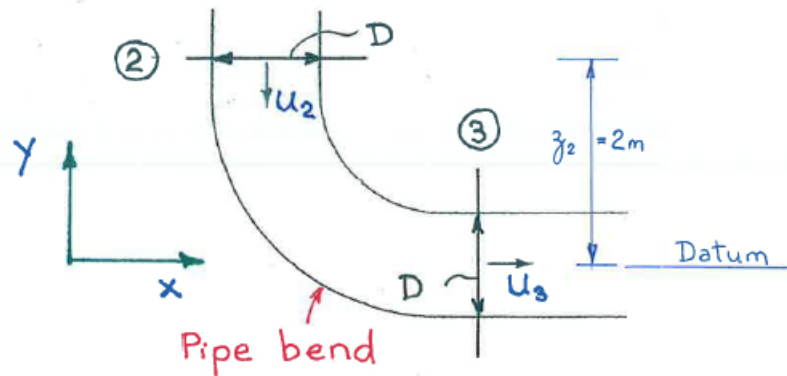

Figure 6: Large diameter pipe bend. The datum coincides with the horizontal pipe axis.
$D = 1\text{ m}$, $d = 0.2\text{ m}$, $z_2 = 2.0\text{ m}$, $u_2 = 2.3\text{ m/s}$, $V = 2.5\text{ m}^3$ = internal volume of the large diameter pipe between Sections ② and ③. See Figure 6.